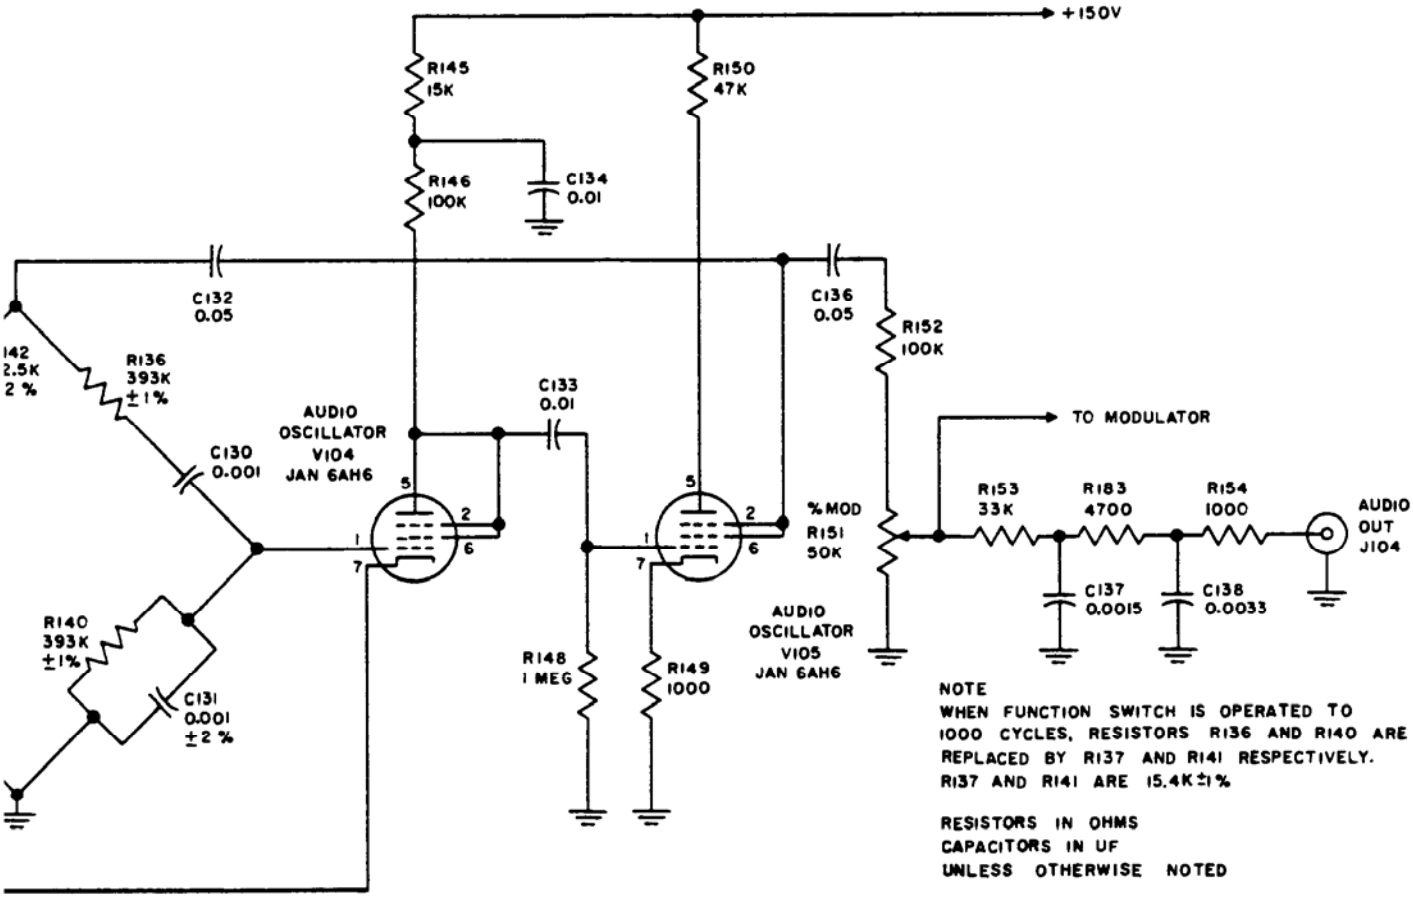

Figure 2-7. Wien Bridge Audio Oscillator Simplified Schematic
6. AUDIO OSCILLATOR. (See figure 2-7.)